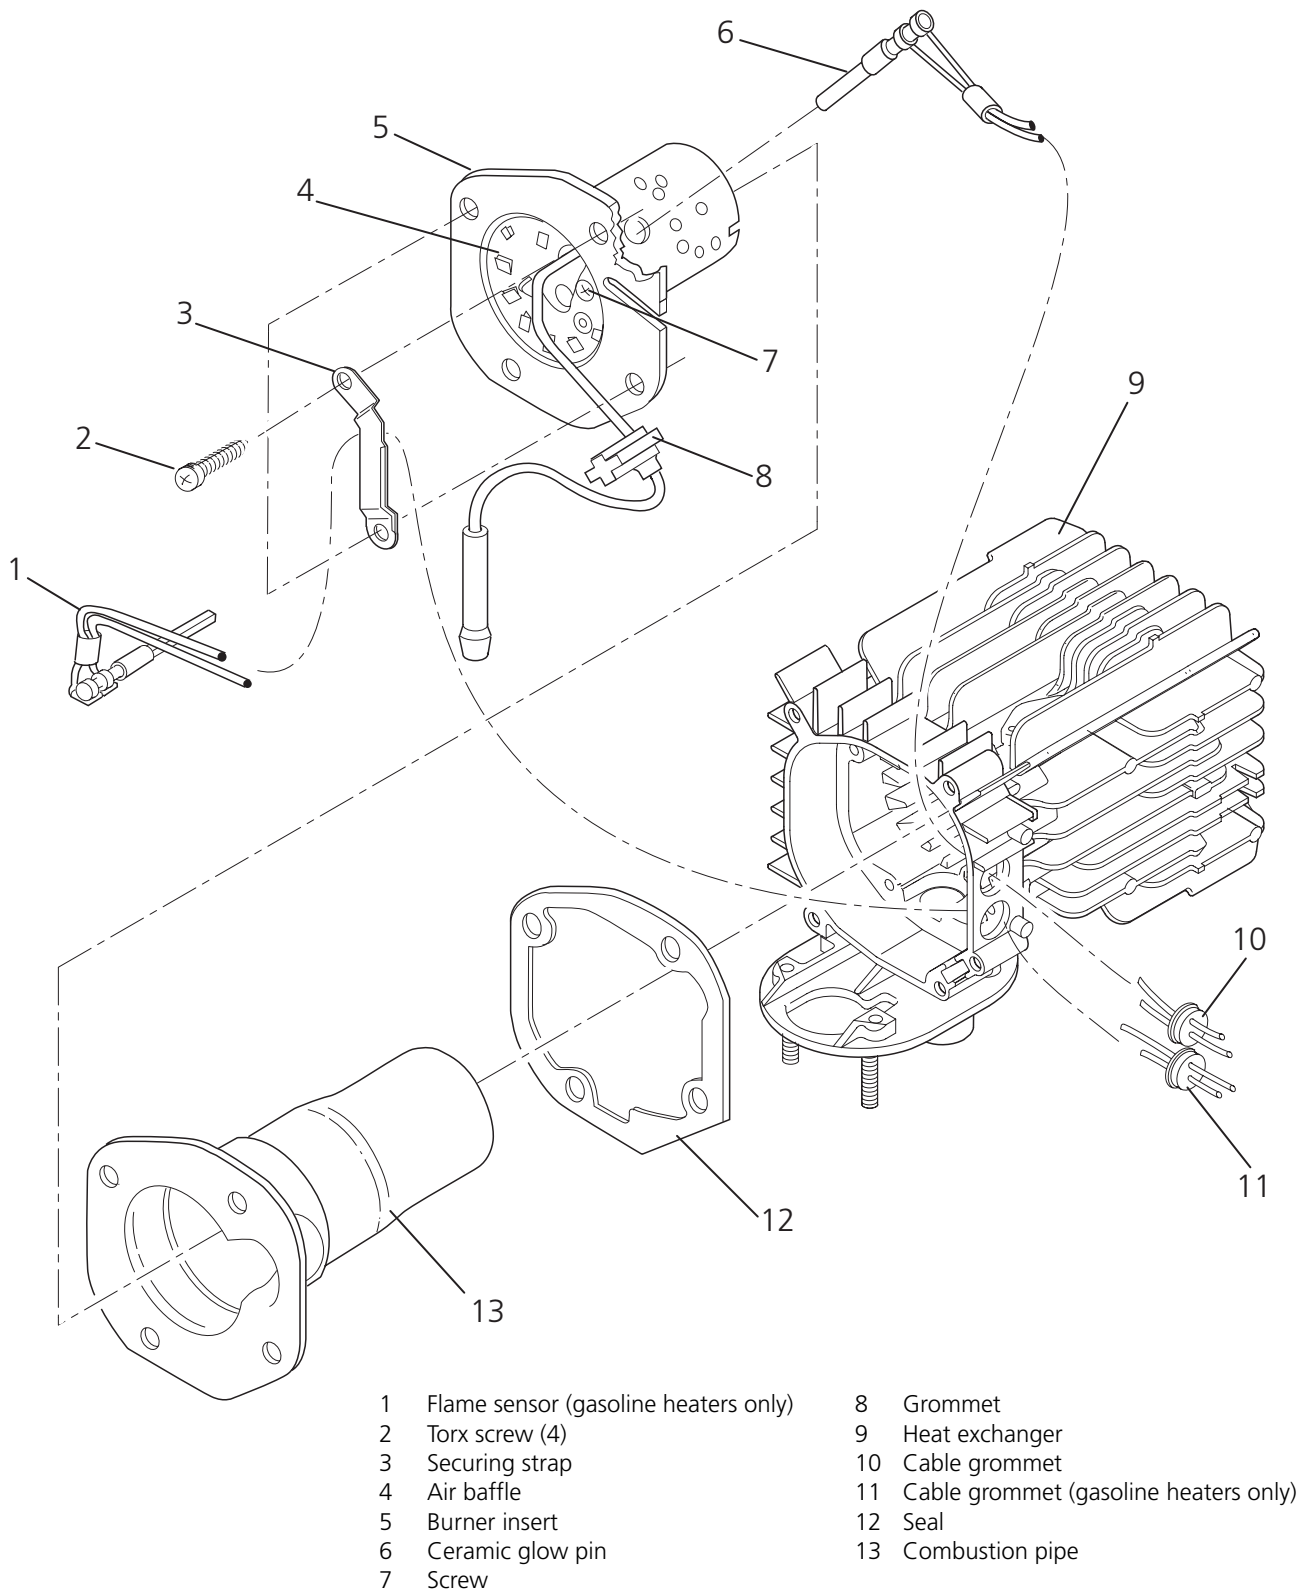

Figure 31: Changing the glow plug, flame sensor, combustion insert and the heat exchanger
5. Remove two screws (2, Fig. 31) and take off the air baffle (3).
6. Press the cable grommet (11) on the flame sensor connecting cable inwards out of the heat exchanger (9).
7. Carefully bend up the securing strap (4) and pull out the flame sensor (1) from the burner insert.
1. Slide the flame sensor (1, Fig. 31) through under the fuel line, insert the plug through the hole in the heat exchanger (9) and press the cable grommet (11) into the heat exchanger (9) from inside.
2. Insert the cable with the protective sheath through the securing strap (4) and insert the flame monitor (1) into the burner insert (5).
3. Press the securing strap (4) back together.
4. Secure the air baffle (3) with screws (2).
5. Tighten the screws (2) to 6 ± 0.6 Nm ($53 \pm .5$ lb-in).
5. Press the cable grommet (10, Fig. 31) inwards out of the heat exchanger (9).
6. Remove four screws (2) and take off the air baffle (3).
1. Fit a new seal (12, Fig. 31) into the heat exchanger (9) and bring the combustion pipe (13) into the assembly position.
8. Remove the burner insert (5, Fig. 31).
9. Remove the combustion pipe (13) and seal (12) from the heat exchanger (9) and dispose of the seal (12) separately.